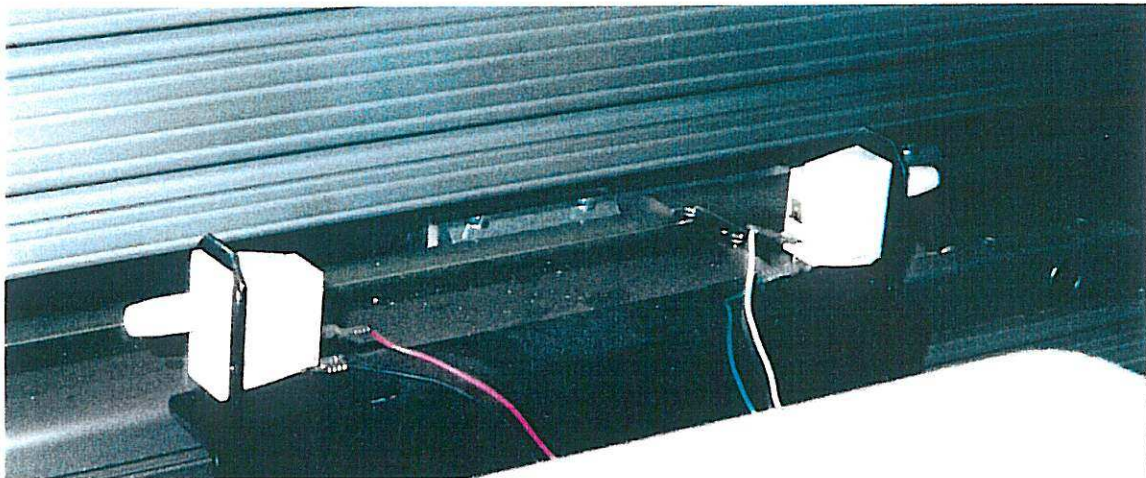

Figure 4.4
- I. X-axis Overtravel Limits: Located on the middle X-axis drive behind the sewhead. See *Figure 4.4*. Prevents the frame from crashing into the sewhead when moving in the X direction.